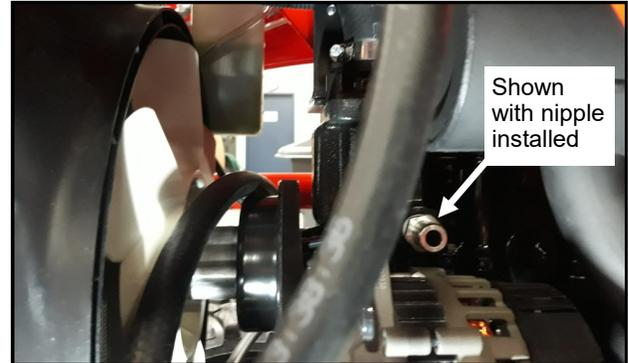

Fig. 14.2A (Remove Plug from Engine) CK2610
- 14.2 See Figure 14.2A (CK2610) and 14.2B (other models). For the supply line for the heater, remove the plug from the thermostat housing. Install the 1/2" NPT nipple into the thermostat housing using Teflon tape (not provided).